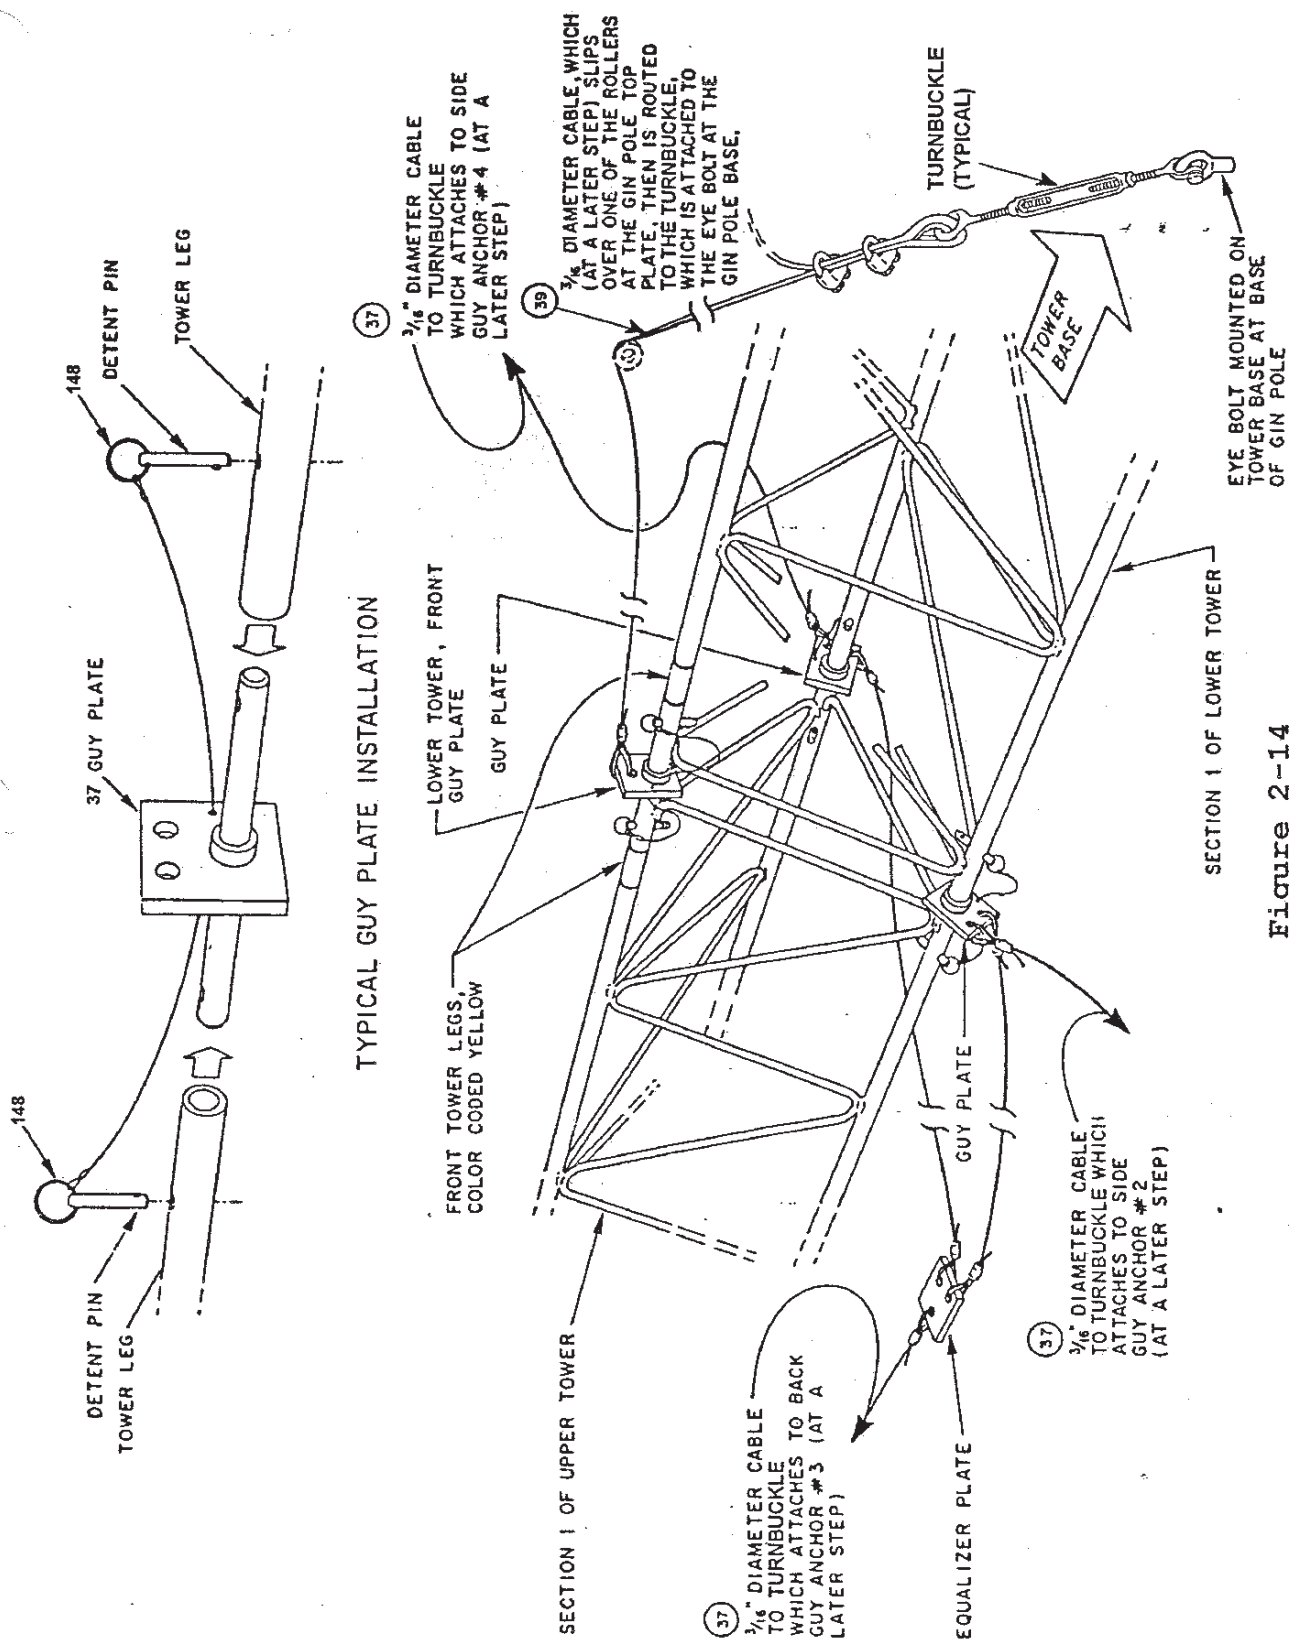

Figure 2-14
- k. Figure 2-14 identifies the lower tower guy plate assemblies. The guy plates are assembled between the lower tower section and the upper tower section as shown. Latch the guy plates and the tower sections together with the detent pins.
- j. Lay the guy wires out on the ground toward their respective anchors (Figures 2-14 and 2-24), being sure there are no kinks or sharp bends in the wires.